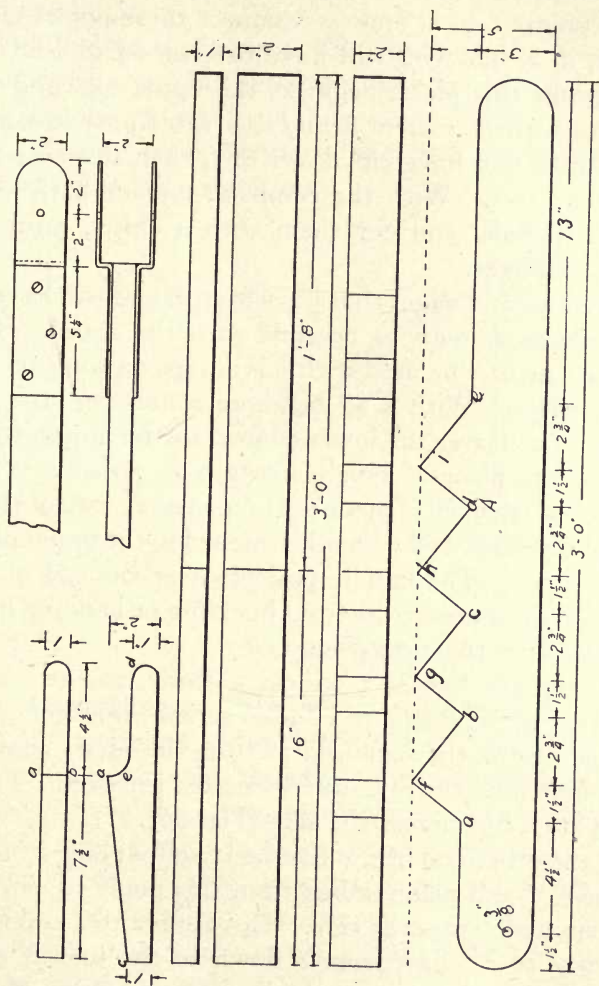

FIG. 60.—DETAILS OF WAGON JACK.
1. **Laying out, squaring, and planing.** — Plane *A*, Fig. 60,  $5''$  wide,  $2''$  thick, and  $3'$  long. Set the gauge at  $3''$  and gauge on both surfaces from one edge.  $6''$  from one end, square a line across the gauged line.  $4\frac{1}{4}''$  from this line, square another line. Repeat this operation until 5 lines have been drawn. These lines locate points *a*, *b*, *c*, *d*, and *e*.  $1\frac{1}{2}''$  from the first line *a*, square another line, and at the same distance
Lay out the handle 1" thick, 2" wide, and 12" long.  $7\frac{1}{2}$ " from one end square a line *ab* across one edge. Lay off a point *c* on the same end 1" from the edge; connect this point with the line squared across the edge. From *a*, square a line across the side (Fig. 60).